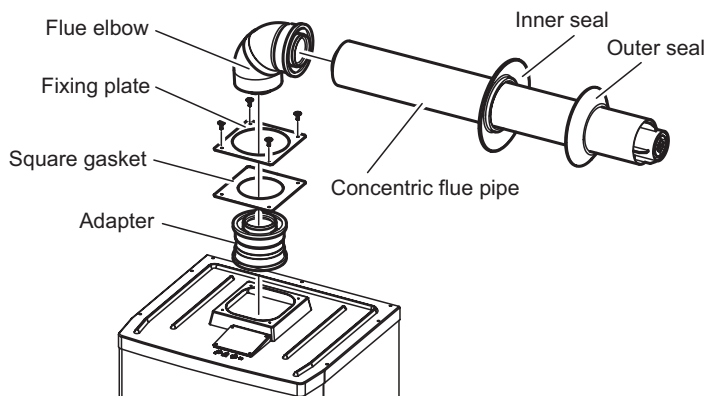

Fig. 4.9
**Horizontal through the wall concentric flue kit - see Fig. 4.9 and 4.10.**
Fig. 4.9 shows the flue kit parts that need to be fitted to the boiler to ensure the room sealed concentric flue can be used.